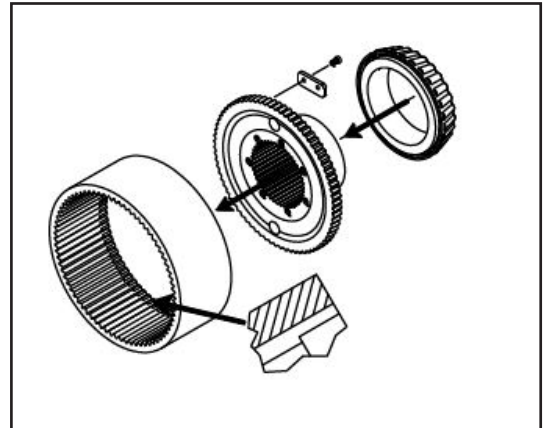

Figure 29
- The ring gear and the ring gear carrier may only be assembled as shown in Figure 29.